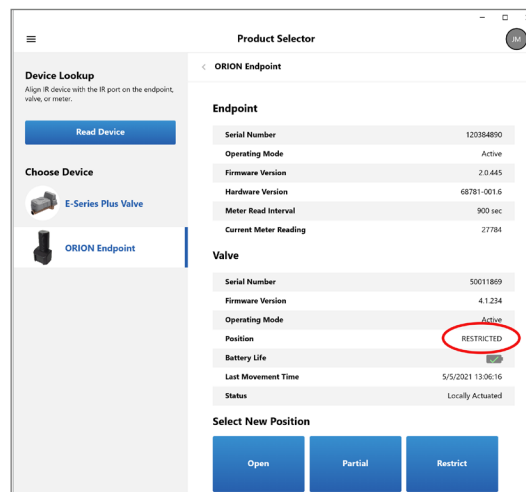

Figure 33: After actuation, valve is restricted
3. Select the new valve position. In this example, we selected **Restricted** (Figure 33). The valve starts moving almost immediately.